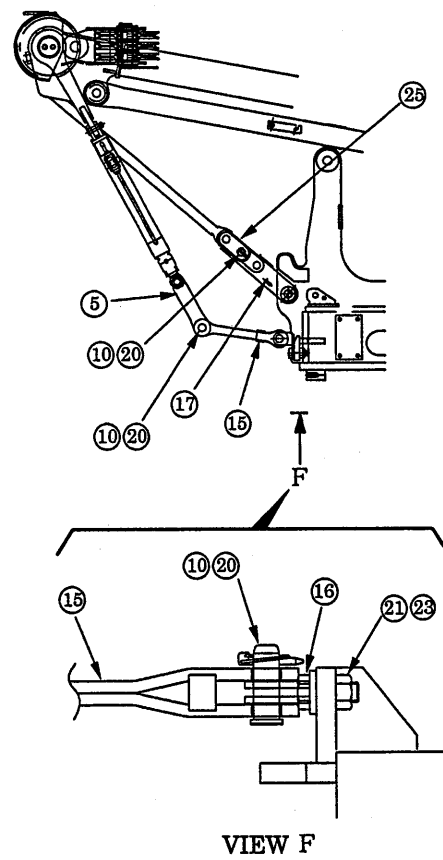

Fig 10-25
10.4 OPERATION OF CYLINDER WHEN SETTING LOW GANTRY POSITION (FIXATION OF TENSION BAR CONNECTION) (FIG. 10-25)